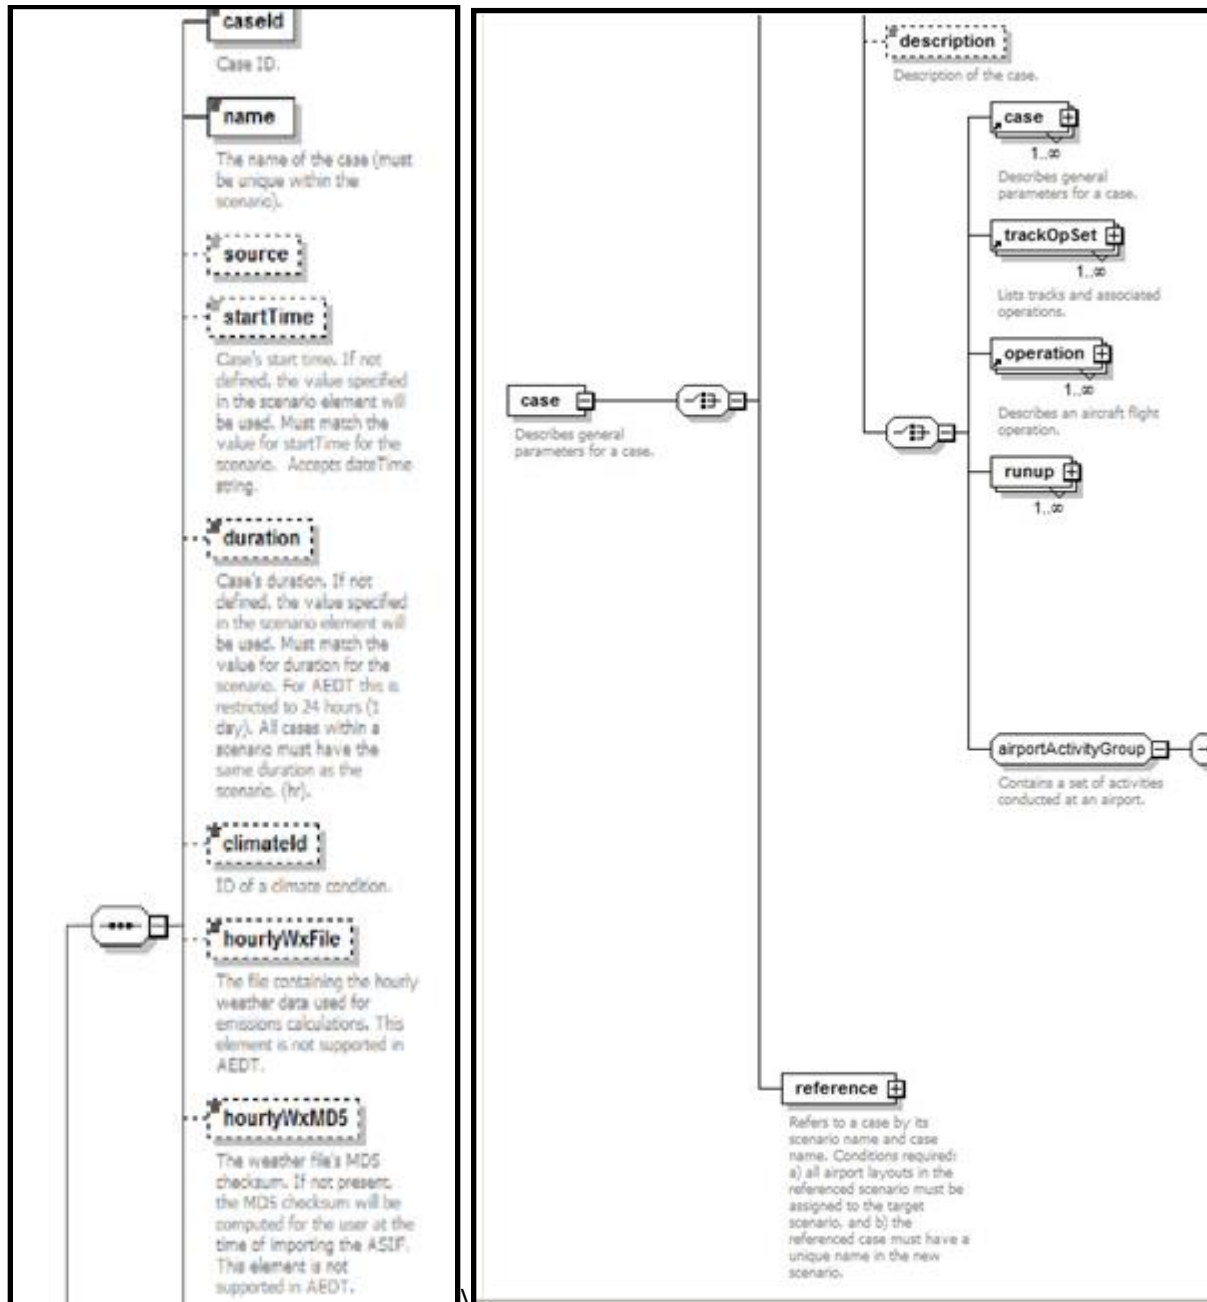

Figure 62 - xml element case
13. AsifXml/study/scenario/case (Figure 62):